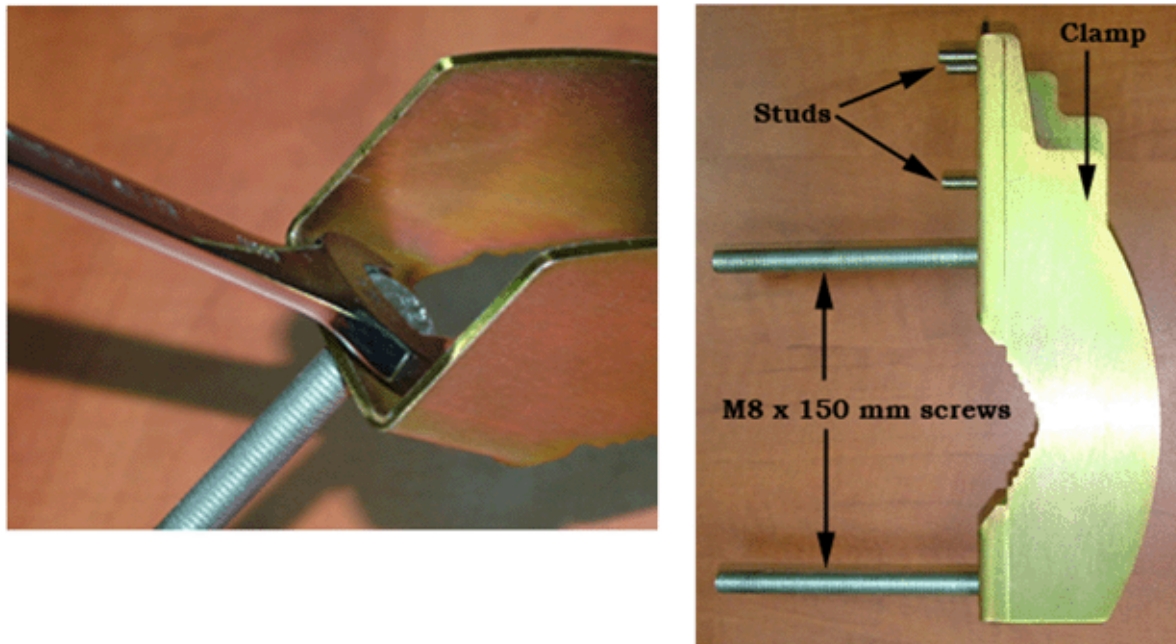

Figure 5-21: Preparing the Clamp
- 1 Fasten the two main (M8 x 150mm) screws to the Clamp. (MC5021-01), either manually or by using a spanner (no special torque is required). Use a flat washer under the screw's head. See Figure 5-21.